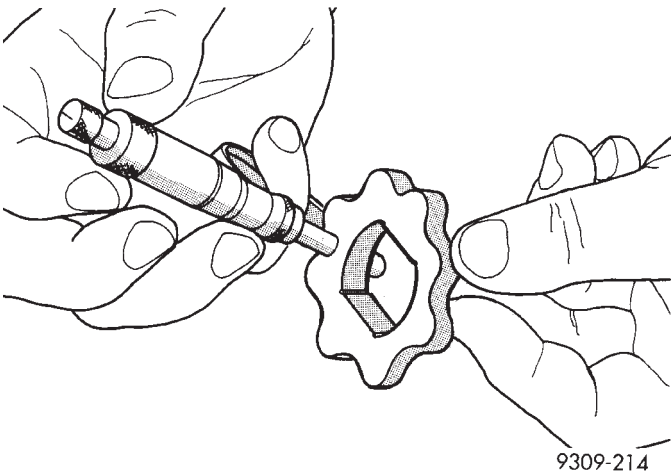

Fig. 113 Measuring Inner Rotor Thickness
(4) If inner rotor measures 7.64 mm (.301 inch) or less replace inner rotor (Fig. 113).